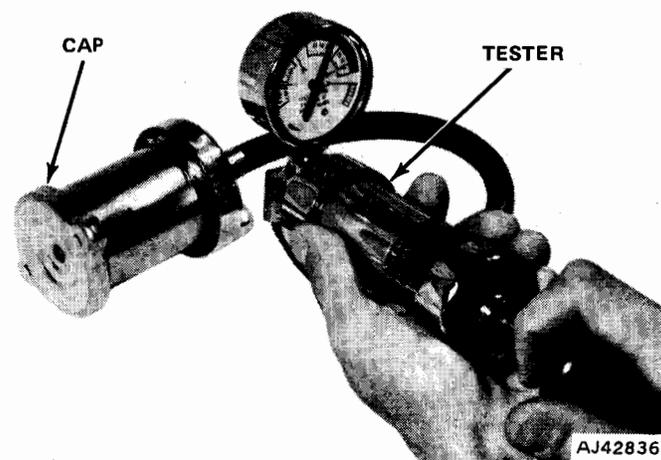

Fig. 2-7 Radiator Pressure Cap Test
- (1) Remove cap from radiator.
- (2) Make sure seating surfaces are clean.
- (3) Wet rubber gasket with water and install cap on tester (fig. 2-7).
- (4) Operate tester pump and observe needle at its highest point. Cap release pressure should be 13.9 to 18 pounds.